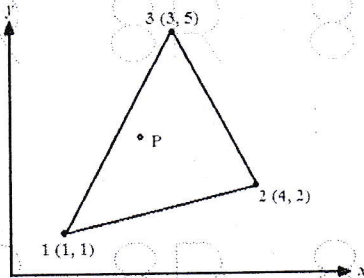

Figure 3
- 7.a) For point p located inside the triangle as shown in figure 3, the shape functions N_1 and N_2 are 0.15 and 0.25 respectively. Determine the x-and y-coordiante of point P.